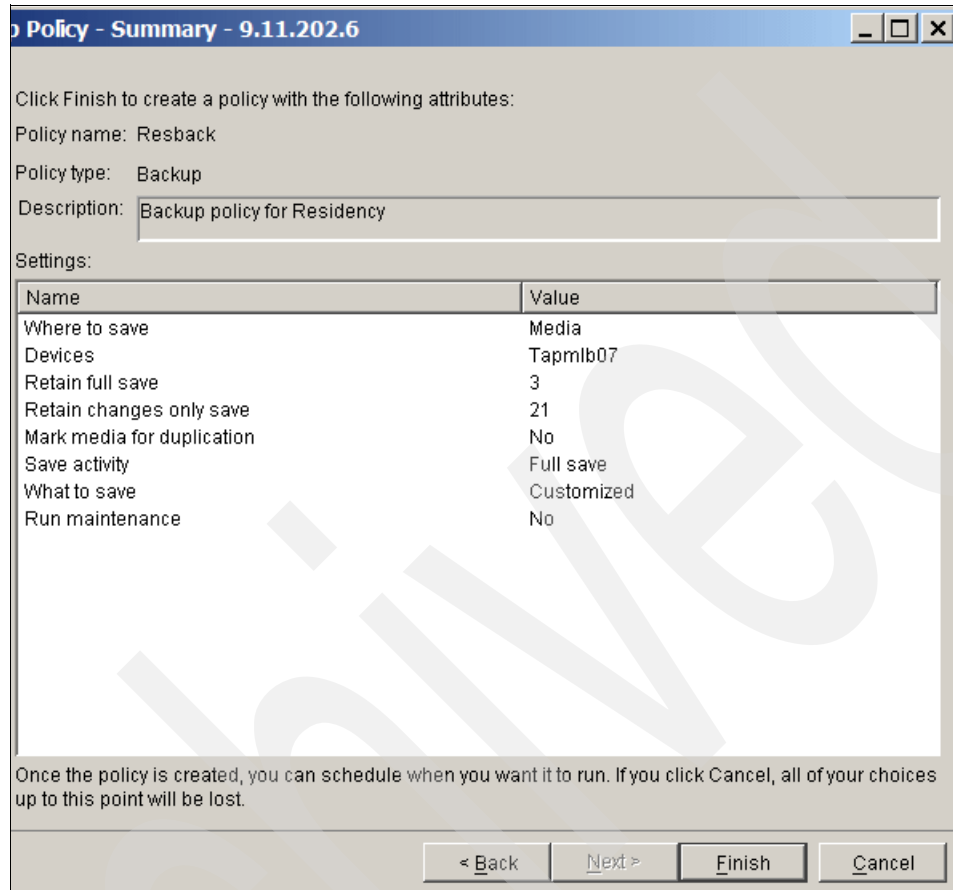

Figure 6-29 New Backup policy wizard - policy summary
19. Next, you are presented a wizard window with features of the backup policy being created. After reviewing them, click **Finish** to create the backup policy. This is shown in Figure 6-29.